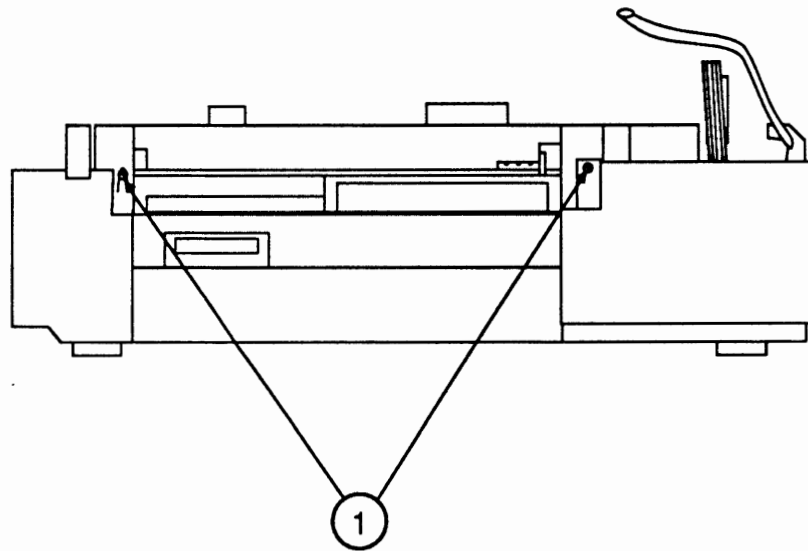

FIGURE 2-64
4. Replace the the two screws on either side of the manual feed entrance (Figure 2-64, #1). Install the longer screw on the side nearest to the rear panel.